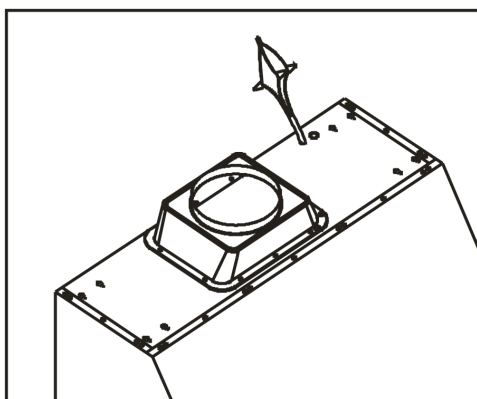

Figure 4
Step 4 : Connect the range hood to a designated standard outlet or cut off the plug and connect three wires (black, white and green) to house wires and cap with wire connectors. Connect according to colors (i.e. black to black, white to white, and green to green) as shown in Figure 4.